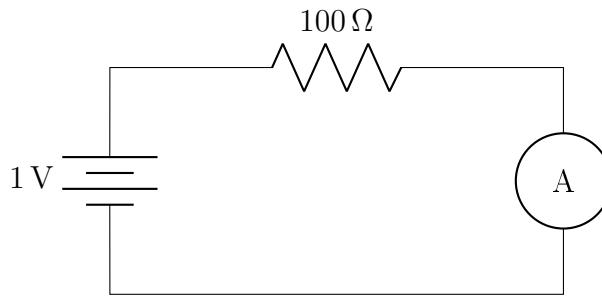

Figure 7: Circuit used to measure the internal resistance R_M of the ammeter
To determine the resistance of the DC ammeter, set up a circuit as shown in Figure 7.
3. Assemble the circuit shown in Figure 7. Set the multimeter to the ammeter mode for DC current measurement.
6. Determine the value of R_M from Equation (4).